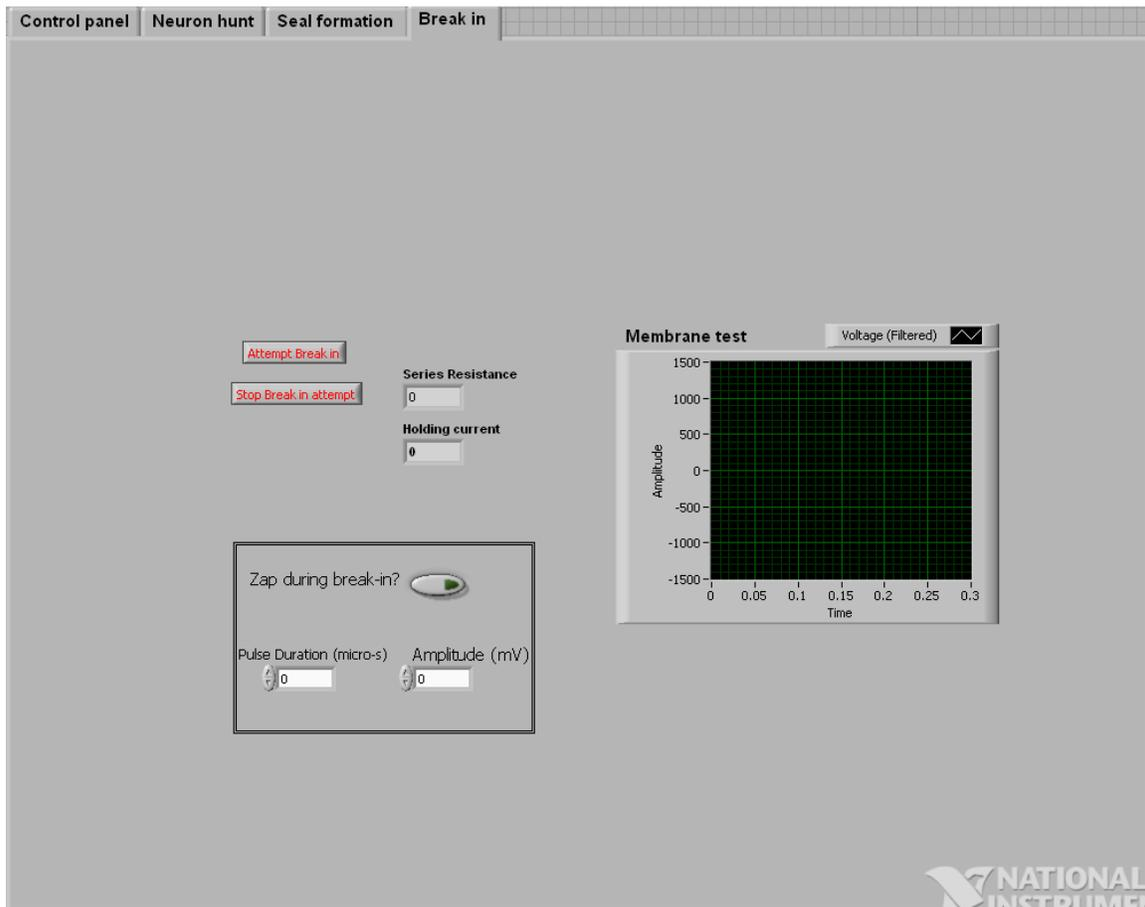

Figure 2.2.4: Computer screen capture of Break-in tab in Autopatcher program
2.2.4. Break-in Tab Settings (Fig. 2.2.4)